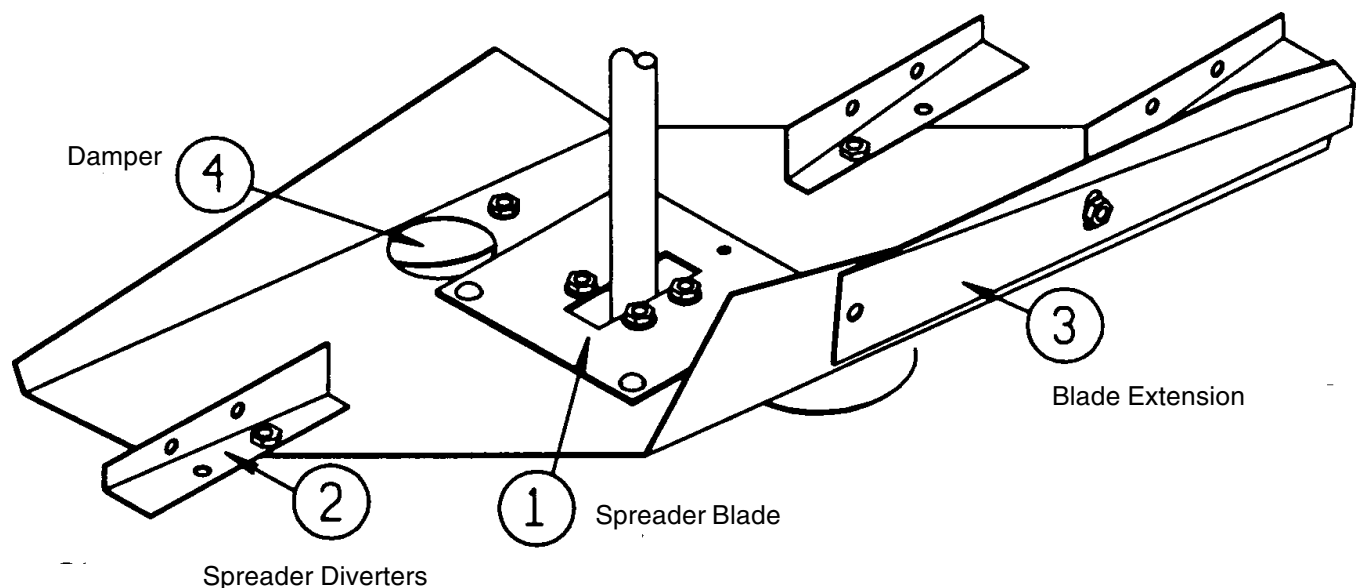

Figure 9: Four features for adjusting the grain flow pattern.
2. Spreader diverters are used to increase or decrease grain flow resistance over spreader blade. With the diverters straight (Figure 9) the grain will travel fur-
Ref # refers to Figure 9 on page 15.